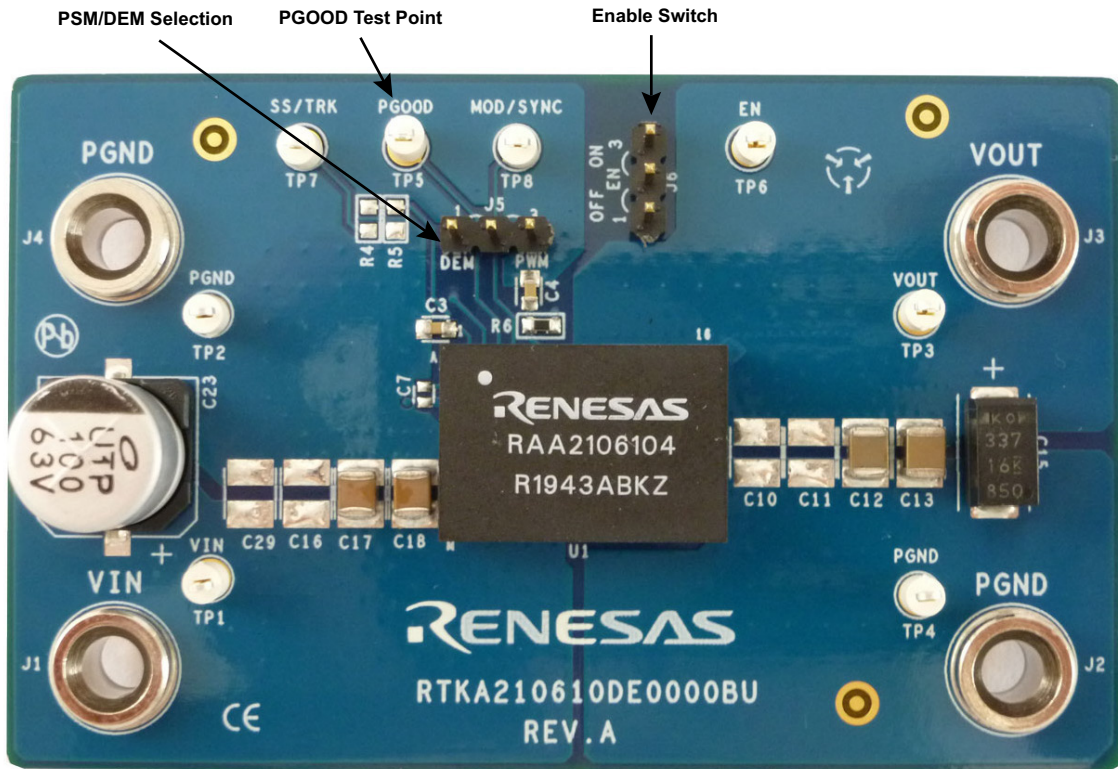
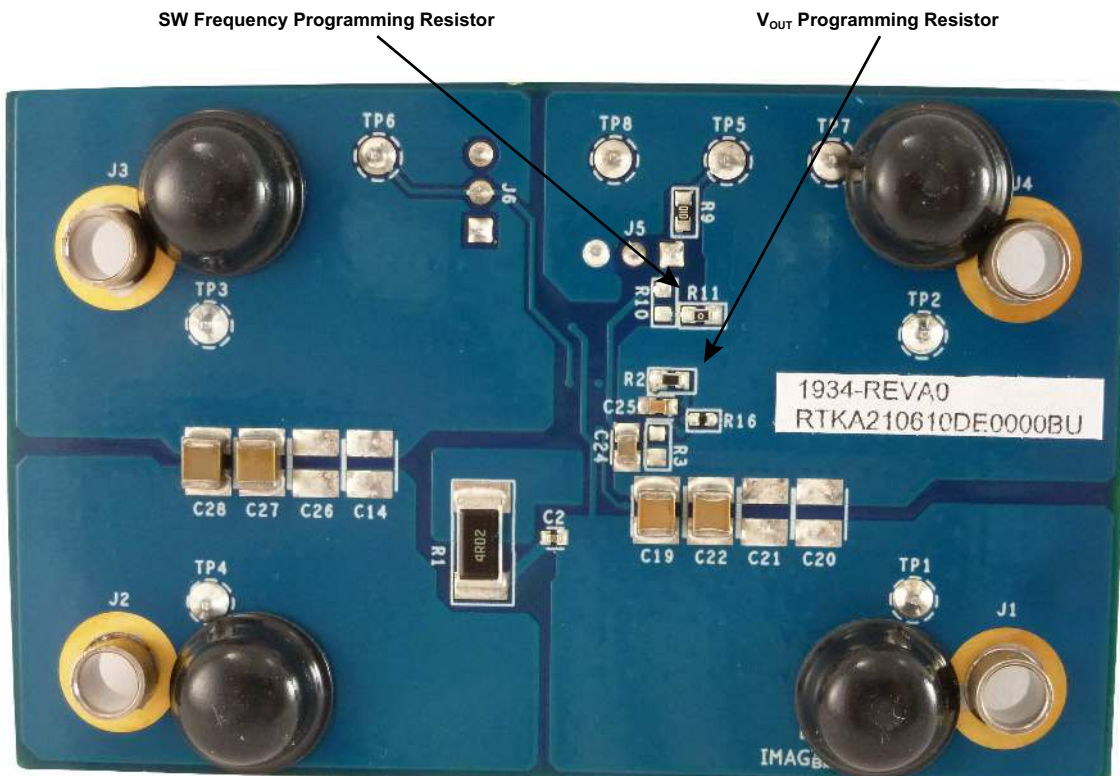

Figure 2. Top of Board
Figure 3. Bottom of Board
The RTKA210610DE0000BU provides the peripheral circuitry to evaluate the feature set of the RAA210610. The evaluation board includes several connectors, test points, and jumpers that simplify the validation of the module. The converter is enabled and disabled by moving the jumper across the EN pin as shown in Figure 2 on page 5. Connecting a jumper across the MOD/SYNC pin and VCC (as shown in Figure 2) enables the PSM/DEM mode of operation, which can lead to higher efficiencies at light loads. Resistors R₄ and R₅ are used to evaluate the tracking functionality. Selecting features like external frequency synchronization is performed by connecting the signal generator (square pulse waveform clock signal) to the MOD/SYNC pin. The output voltage (0.6V - 12V) and the switching frequency (300kHz to 2MHz) are programmed by changing the resistors as shown in Figure 3 on page 5.
1. Disable the module by moving the jumper across the EN pin as shown in Figure 2 on page 5.